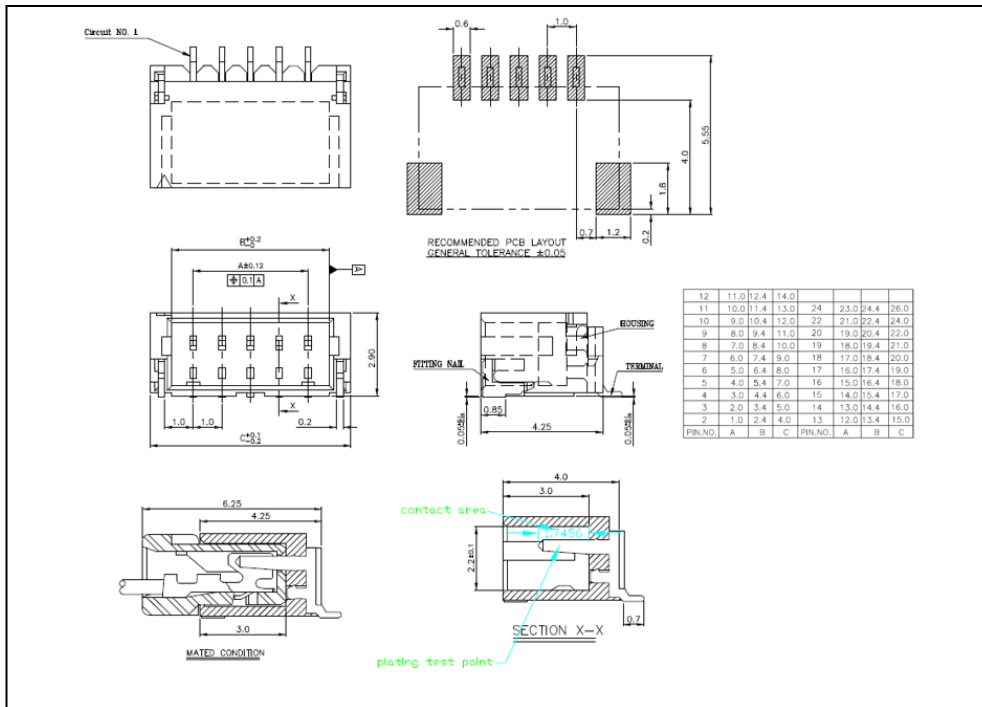

Figure 2: ACM1552U-Z JST Connector (Male) Specification
- Figure 2: ACM1552U-Z JST Connector (Male) Specification 7